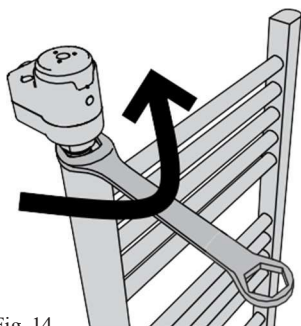

Fig. 14
3. Using a 27 mm spanner unscrew the element, rotating it anticlockwise until the element thread is completely off from towel rail $\frac{1}{2}$ "GAS female thread (Fig. 14).